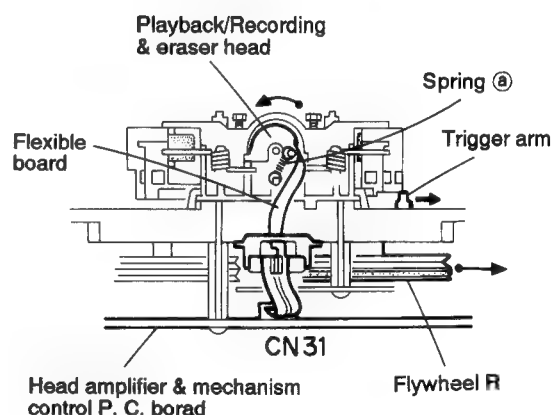
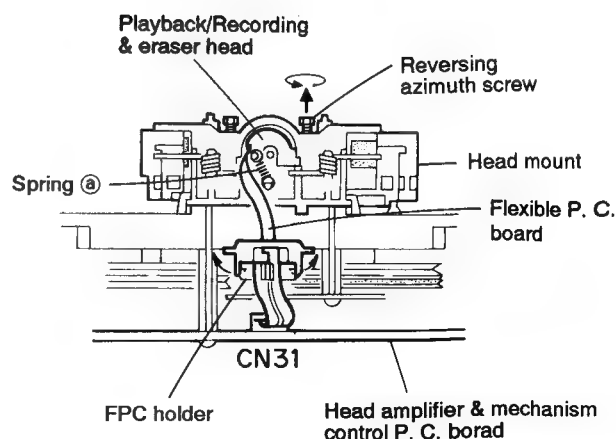

Fig. 5-20
Fig. 5-21
2. When the flywheel R is rotated in counterclockwise direction, the playback/Recording & eraser head will be turned in counterclockwise direction from the position in Fig. 5-20 to that in Fig. 5-21.
6. Remove the spring ③ from behind the playback/Recording & eraser head.
1. Reassemble the playback head from the front of the head mount to the position as shown in Fig. 5-21.
3. Set the spring ③ from behind the playback/Recording & eraser head.
4. Attach the flexible P.C. board to the chassis base, and fix it with the FPC holder as shown in Fig. 5-21.